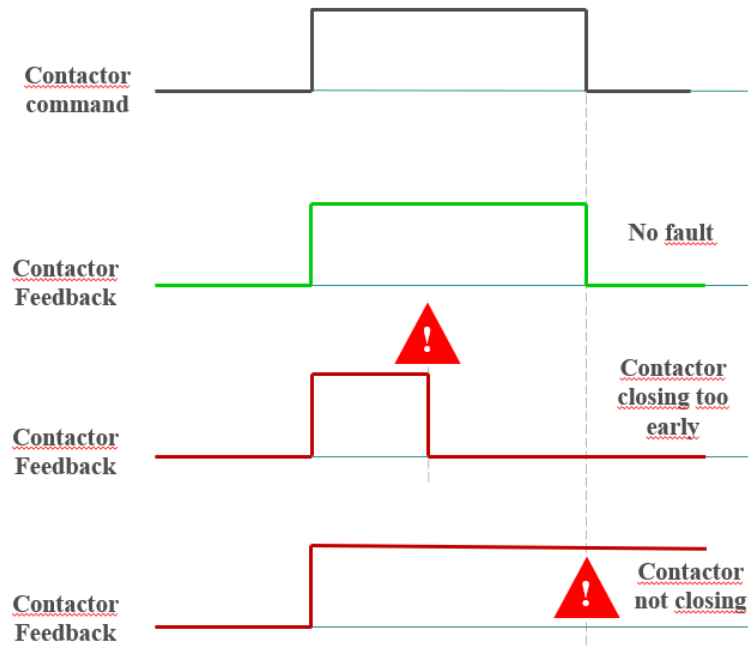

Figure 2. Contactor feedback logic.
2.2.1 Contactors Feedback Information (Figure 2)